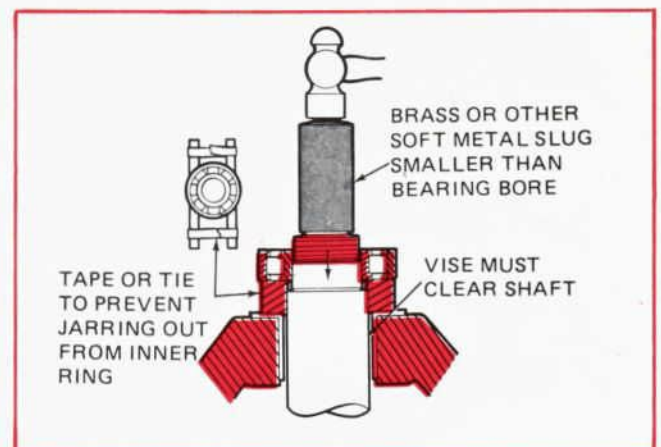

Figure 19 – Use a soft metal slug to protect the bearing.
3. Shaft should be removed from the bearing with a SOFT metal slug to avoid damaging the bearing and shaft. (Fig. 19)